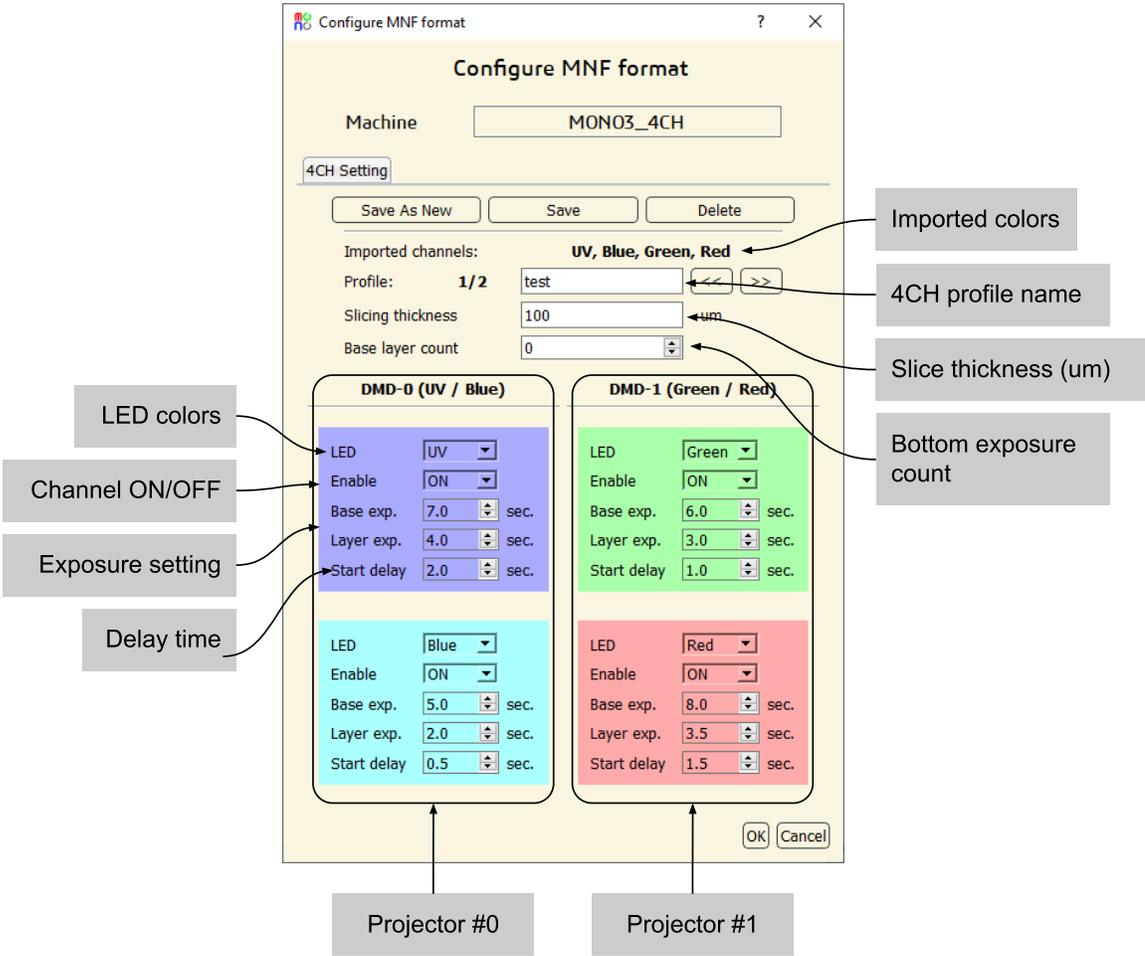

Fig. 12. MNF configuration window for 4CH printer
- The first row (UV and Green in Fig. 12) will be turned on at the same time, and the second row (Blue and Red) will be followed.
- The profile shown in Fig. 12 will turn on LEDs with a following sequence (1 step = 1 sec).